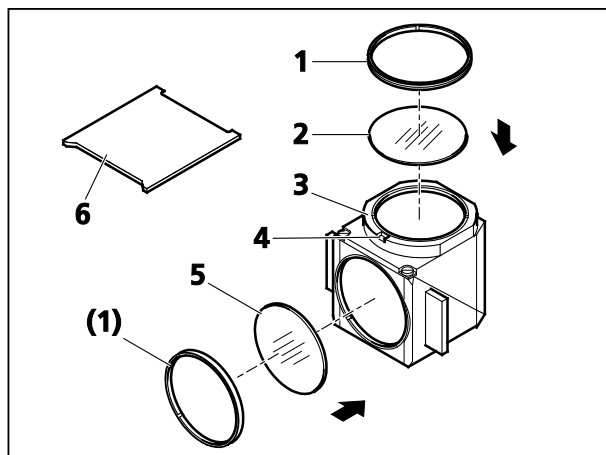

Fig. 36 Changing the filter set in the reflector module FL P&C
- Remove reflector module FL P&C (Fig. 36/3) from the reflector turret and put it down (refer also to section 4.11.2).
- Use mounting plate (Fig. 36/6) from the tool set to unscrew the retaining ring (Fig. 36/1).
- Turn the reflector module so that the filter (Fig. 36/2 or 5) falls out on a soft surface.
- Insert the barrier filter (emission filter) at (Fig. 36/2), and the exciter filter at (Fig. 36/5). Secure both filters with the retaining rings (Fig. 36/1).
Barrier filter and exciter filter may bear a designation and an arrow on their circumference. The arrow indicates the direction in which the filter must be inserted into the reflector module; it must always point inwards (see arrows in Fig. 36).
When inserting the respective barrier filter into a reflector module, align this label with the orientation notch (Fig. 36/4). This will ensure that the wedge angles of the barrier filters used in all reflector modules in the turret have identical, defined positions. Although image offset between modules is intrinsically very small with ZEISS filter sets, it can be further minimized or even fully compensated by the above measure.